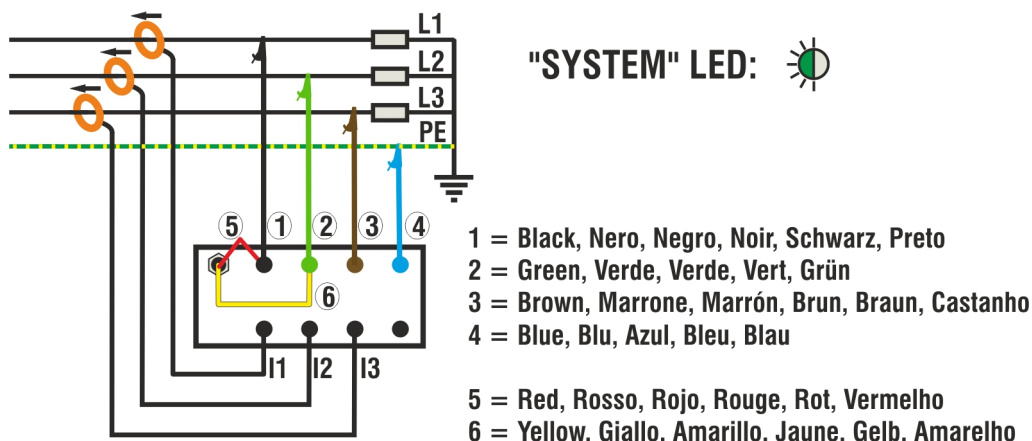

Fig. 3: Connection of the instrument to a three-phase 3-wire system
2. Connect the supply terminals (red and yellow) respecting the connections indicated in the Fig. 3
3. Connect the cables of the phase voltages L1, L2 e L3, respecting the connections indicated in the Fig. 3. Connect the blue cable to the protective conductor.
4. If you want to measure currents and powers, connect the clamp meters to the phase conductors, **respecting the direction indicated on the clamps** and the connections indicated in the Fig. 3